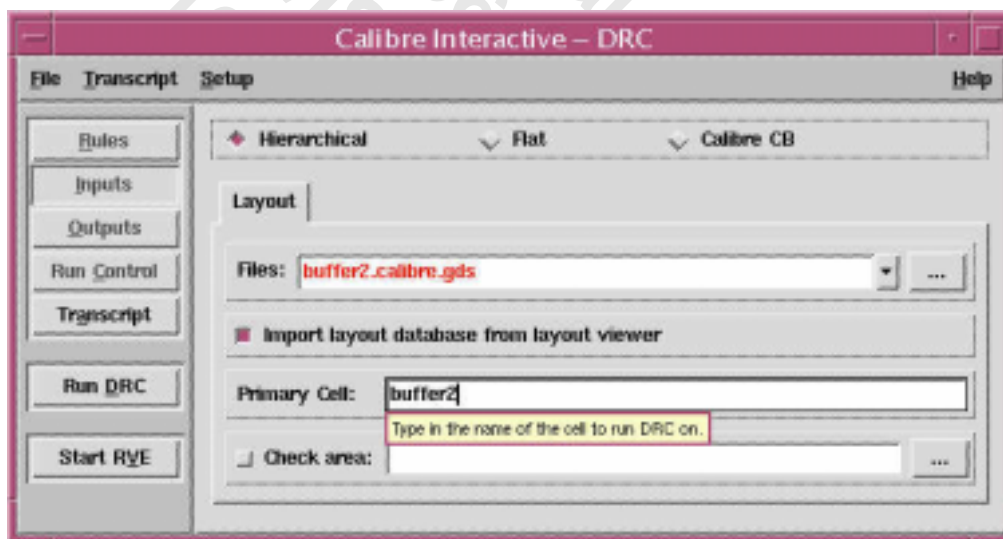

FIG. 35 Calibre interactive DRC window
2. Specify the "Calibre-DRC rules file" and the "Primary cell" in Calibre interactive-DRC window (Fig 35). If you need to change some DRC switches, you have to edit the Calibre DRC deck first.